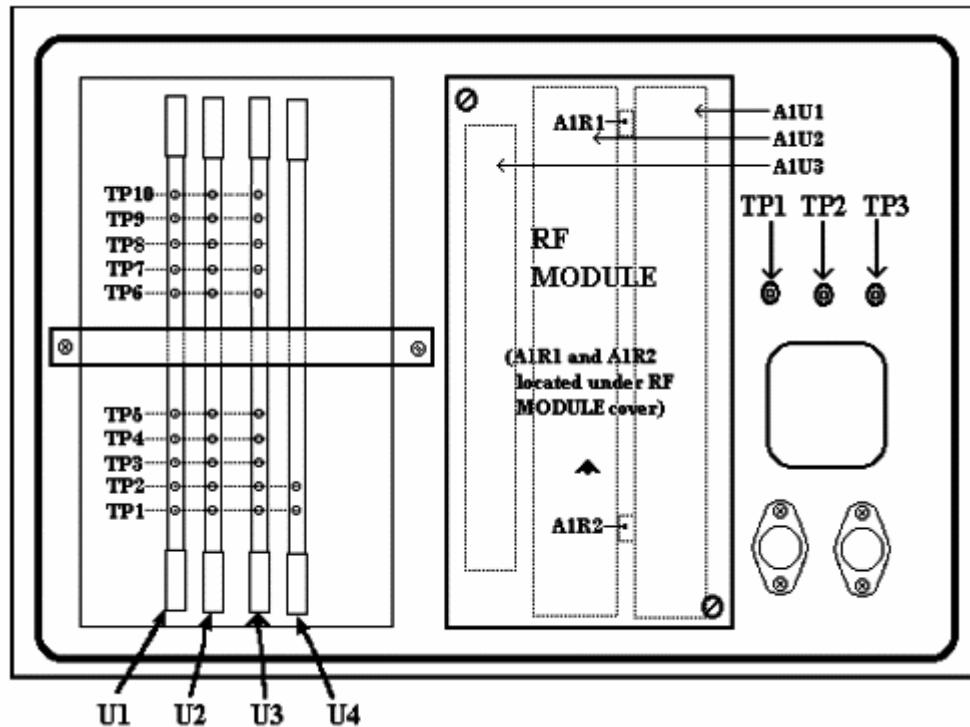

Figure 2. Test instrument – rear view.
(1) Set TI **POWER** switch to **OFF** and remove the housing from the RF MODULE (fig. 2) as listed in (a) through (c) below.
(a) Disconnect the three RF cables from side of RF MODULE (fig. 2).
(b) Release the two hold-downs at opposite corners of module and gently lift RF MODULE (fig. 2) A1 from its connector.
(c) Replace RF MODULE (fig. 2) into its chassis assembly and reconnect the three RF cables.
(6) Adjust A1R1 (fig. 2) until **ACCEPT/REJECT** indicator just changes from **REJECT** to **ACCEPT (R)**.
(3) Measure pulse power output of TI. If measured output power is not between -5 and -7 dBm, perform **b** below.
b. Adjustments. Adjust A1R2 (fig. 2) until power meter indicates -6 dBm. Reinstall RF module cover (R).